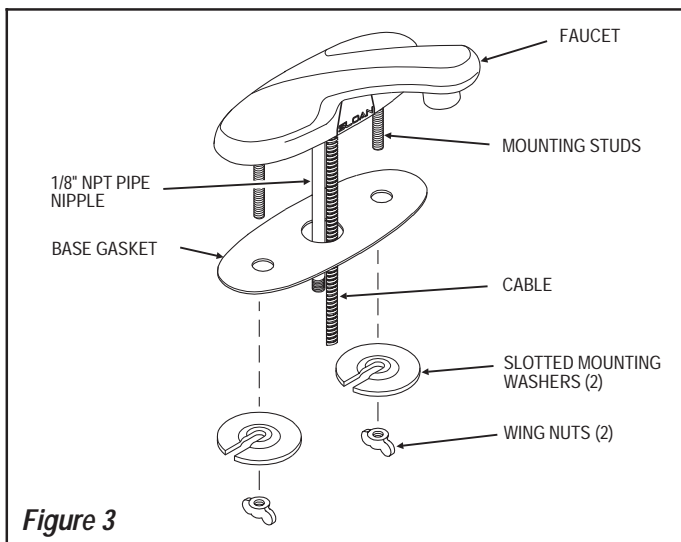

Figure 3
Step 2 — Install Faucet (Figure 3)
Slide Faucet Base Gasket onto Faucet as shown in Figure 3.